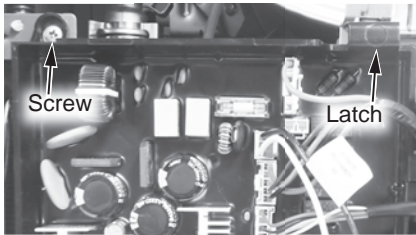

Figure 205 - Control board location
- 12** Locate the two (2) screws at the bottom of the cabinet cover. Use a Phillips screwdriver to remove the screws. Place screws aside in a safe place for reinstallation.
- 14** Locate the screw securing the control board panel as shown in Figure 205. Use a Phillips screwdriver to remove the screw and place it aside in a safe place for reinstallation.